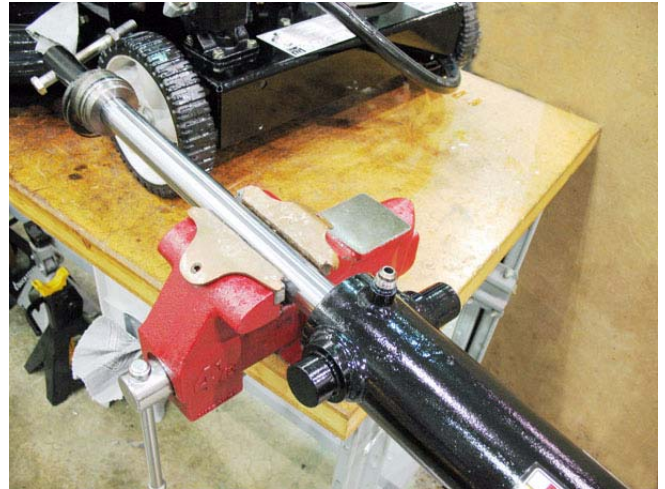

Figure 5.5
- 2.9. Prepare to separate the piston, shaft, and end cap from the cylinder: support the cylinder in a soft-jawed vise. See Figure 5.5.